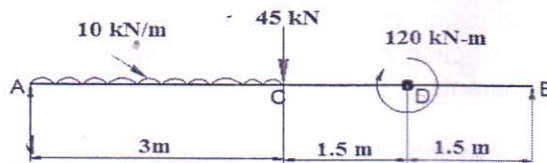

fig. 6(a)
6. a) A simply supported beam AB of 6m span is loaded as shown in fig. 6(a). Draw the bending moment diagram when a reaction force at A is 25kN and reaction at B is 50kN. Also indicate the point of contra flexure if any.